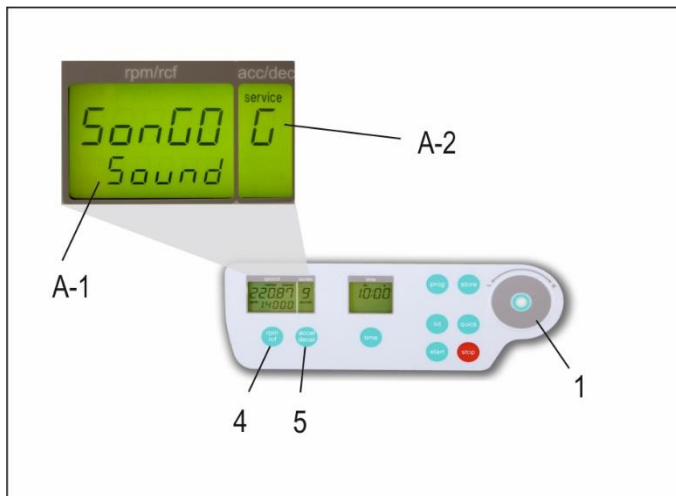

Figure 9
Proceed as illustrated, under point 1.7.1, to enter this program mode, press the key, "accel/decel" (5). In the display, "accel/decel" (A-2) flashes the word, "service". Select the letter, "G" with the control field (1). As a result, appearing in the display, "rpm/rcf" (A-1), the word "SonGo/Sound". After pressing the key „rpm/rcf“ (4), select a song with the control field (1), (see Figure 9).